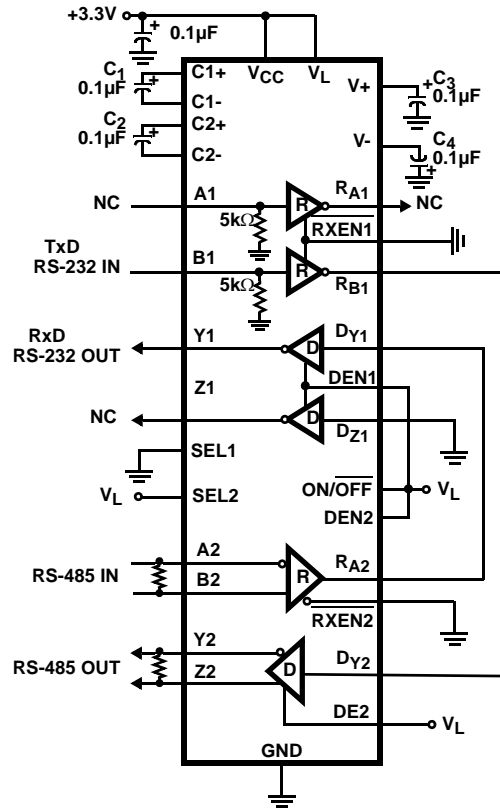

FIGURE 1. SINGLE IC RS-232 TO RS-485 CONVERTER
This two port dual protocol IC is ideal for implementing a two wire (RxD and TxD) RS-232 to RS-485 converter, as shown in Figure 1. To evaluate this circuit using the evaluation board (starting with the default configuration): install the "B1" (4) jumper to connect the 50Ω termination on the input; remove the "DY1 (DZ/SLEW)" (23) and "DY2 (NC)" (20) jumpers; connect a wire from the "RB1 (RA)" test point to the DY2 test point ("TP19"); connect a wire from the "RA2 (NC)" test point to the DY1 test point ("TP20"); connect the port 2 "external loopback" jumpers (9 and 10), and move the "SPA" (16) and "SPB" (17) jumpers to the "LOW" positions to set the RS-485 Tx speed to the medium data rate option. Note that the RS-232 Tx output (Y1) is unloaded in this configuration, while the RS-485 Tx output drives a double terminated load (R_{13} and R_{14}). The RS-232 output can be resistively loaded by looping it back to the "A1" input via the "A1/Y1_LB" (5) jumper, and can be capacitively loaded by soldering the desired load value in position C4. To add a differential capacitive load to the RS-485 driver, simply solder the capacitor on top of termination resistor R_{13} , or